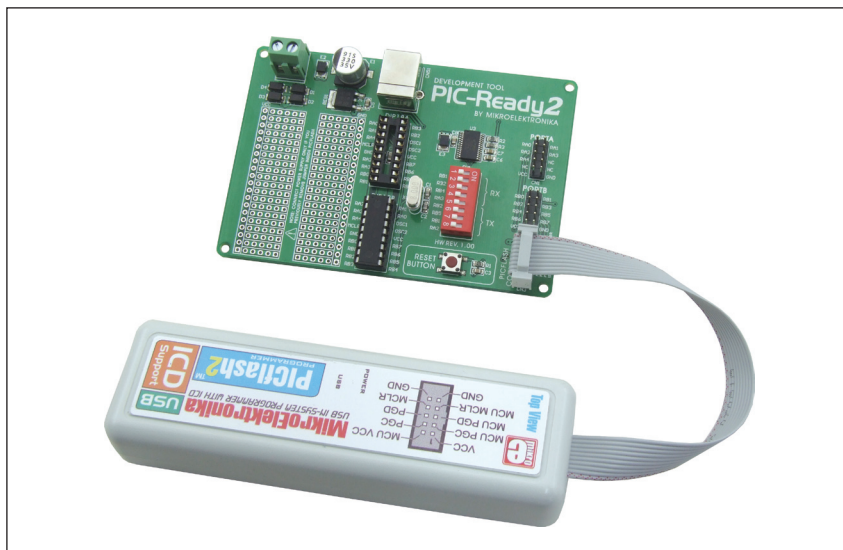

Figure 2: PIC-Ready2 additional board connected to the PICFlash programmer
2. connect an IDC10 connector on the *PICFlash* programmer to a 2x5 connector on the additional board, Figure 2.